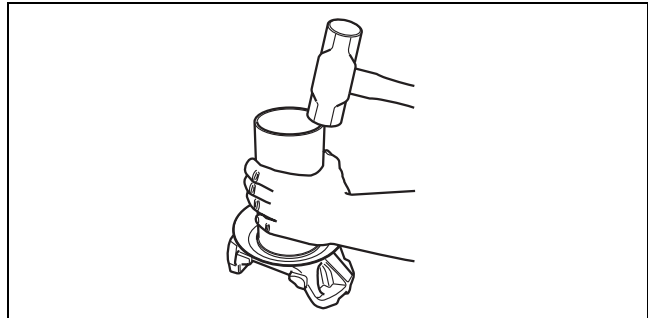

Figure 9.15
4. If a deflector is required, use a section of tubing and a brass hammer to press the deflector remaining onto the end yoke to avoid damaging the deflector. Figure 9.15.